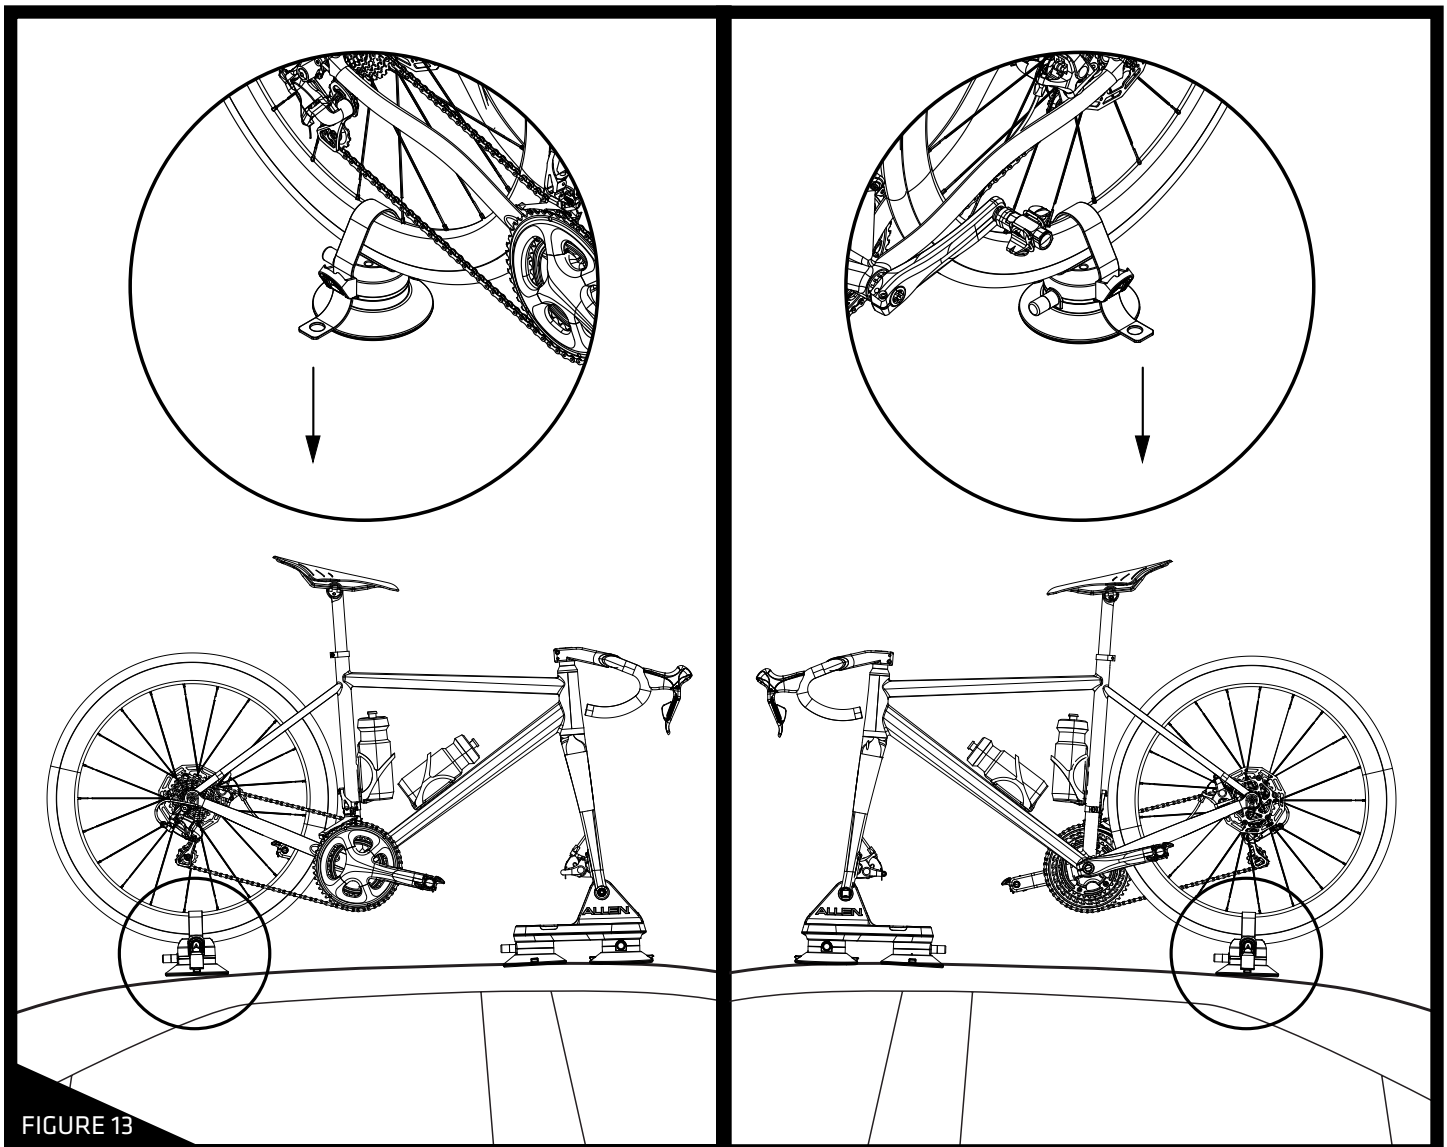

FIGURE 13
STEP 6: Place the Rear Assembly underneath the center of the rear tire of the bike in either orientation shown below in **Figure 13**. Feed the rear wheel strap through the spokes and the end of the strap down through the ratchet on the opposite side. Pull down tightly to secure the rear wheel in place.